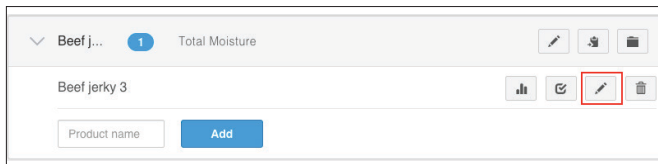

Figure 20 Product group
9. Select the Product group containing the product to be offset (Figure 20).
10. Click the edit icon next to the product to be offset (Figure 20).